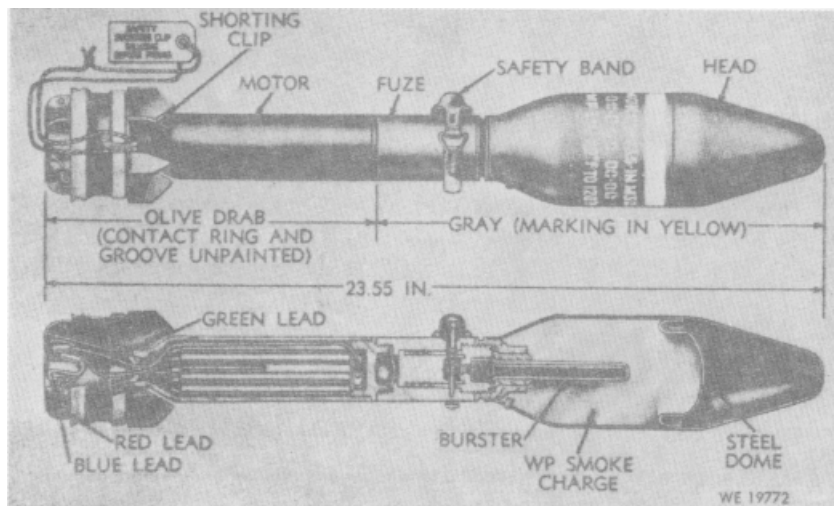

Figure 4-2. 3.5-Inch Smoke Rocket, WP, M30 (T127E3).
b. The smoke (WP) rocket (fig. 4-2) which is the same size and shape as the (HE, AT) rocket, contains a white phosphorous smoke filler and is intended to produce screening or signaling smoke.